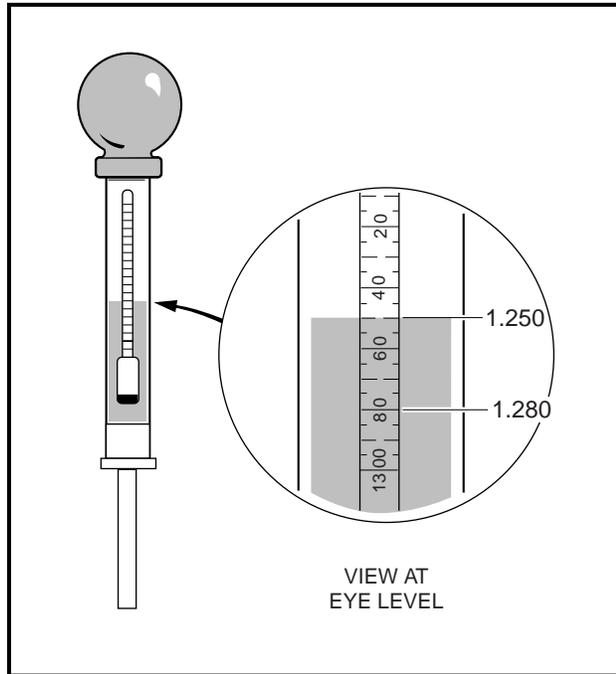

Figure 13-8 Hydrometer
6. Hold the hydrometer vertically, making sure the float is not contacting the sides of the barrel. Hold the hydrometer at eye level and read the scale at the level of electrolyte (**Figure 13-8, Page 13-10**).